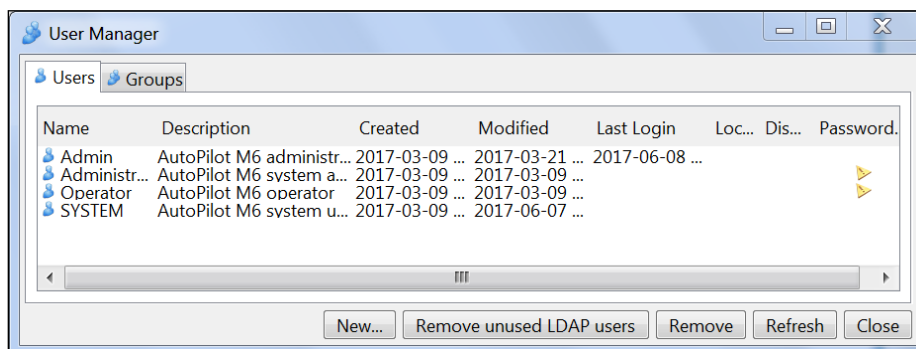

Figure 4-5. User Manager: Users Folder
**Users:** The **Users** folder (Figure 4-5) is the default view. It lists all the registered users in your M6 Network. It provides information about the user (Table 4-3) and links you to individual user profiles and status. Click a user record to view the user properties.
1. From the *User* folder (Figure 4-5) in the *User Manager* click **New**. The *New User* screen is displayed.